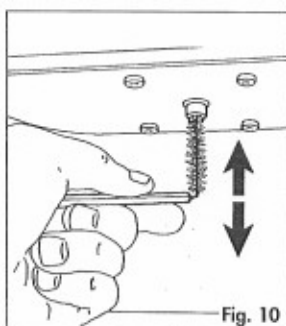

Fig. 10
- Remove any coffee crusts by inserting the cleaning-rod as shown in figure 10. Repeat the movement at least 10 times, completely extracting the cleaning-rod from the orifice each time.